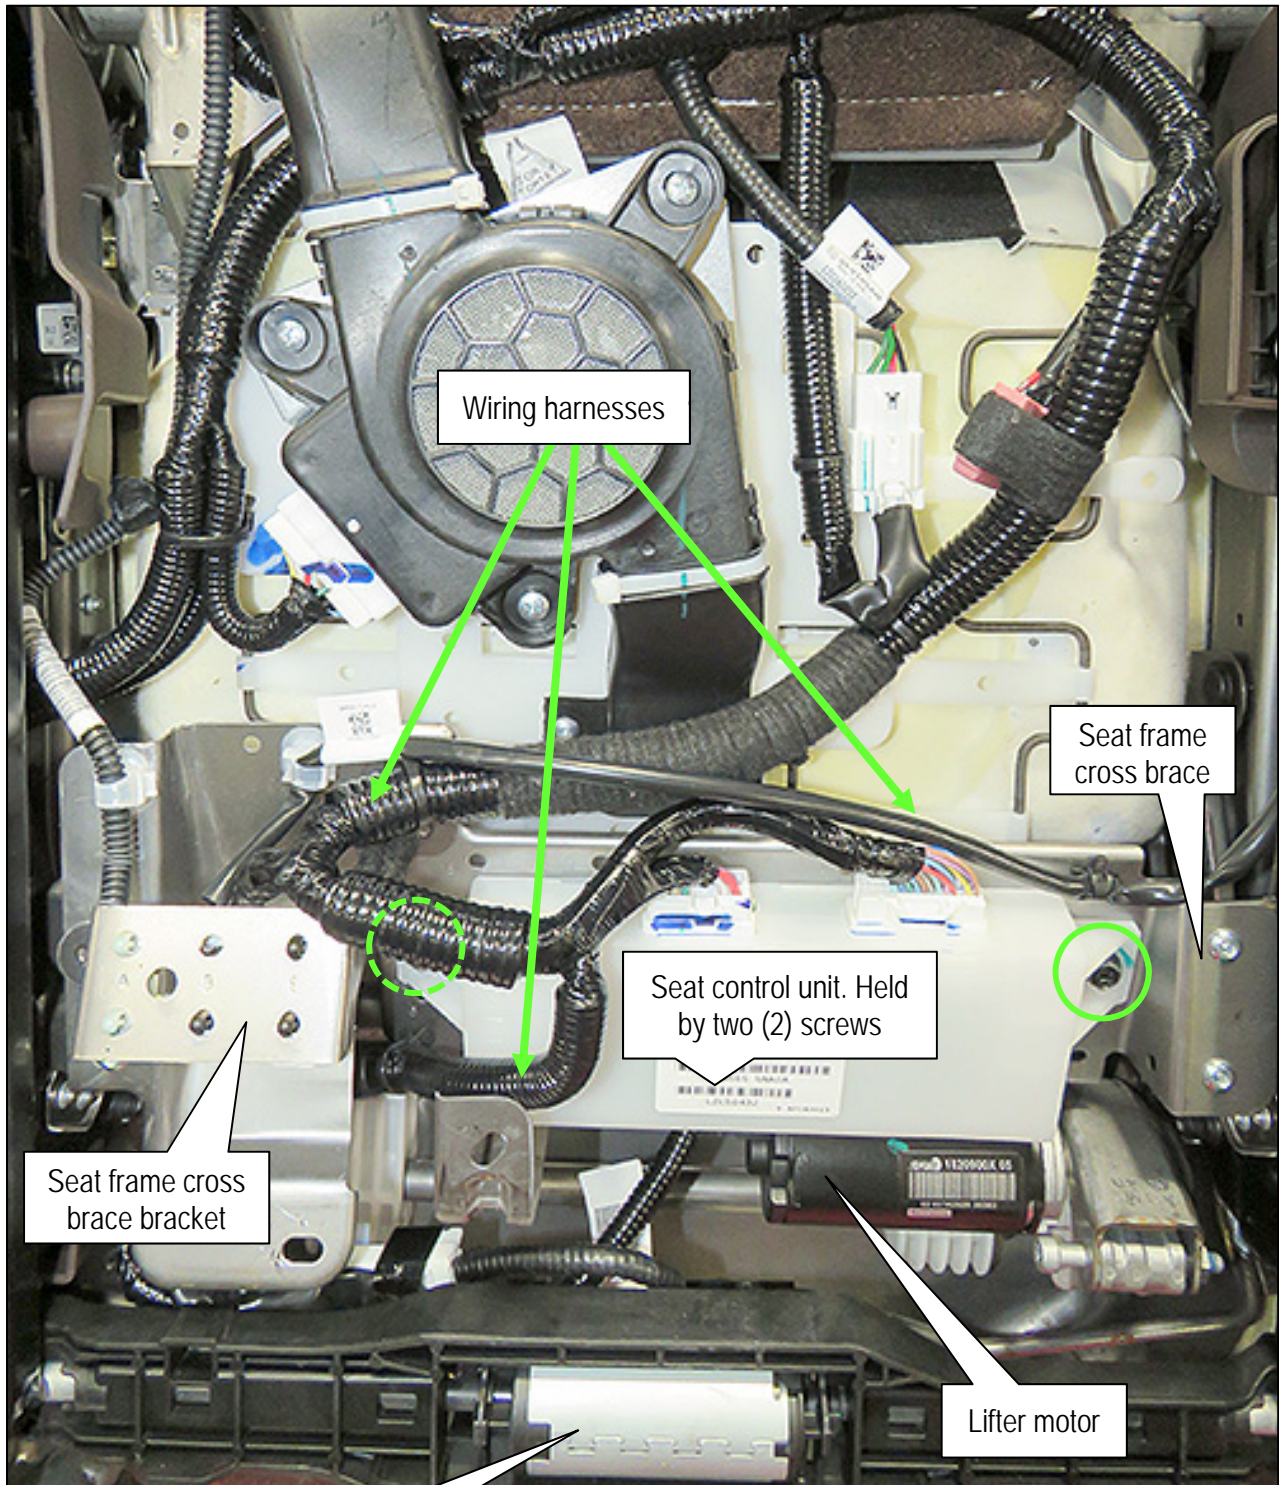

Figure 5
7. Completely unclip the wiring harnesses from the seat frame cross brace and cross brace bracket, as shown in Figure 5.
8. Remove the two (2) screws, circled in Figure 5, that retain the driver seat control unit to the seat frame cross brace.